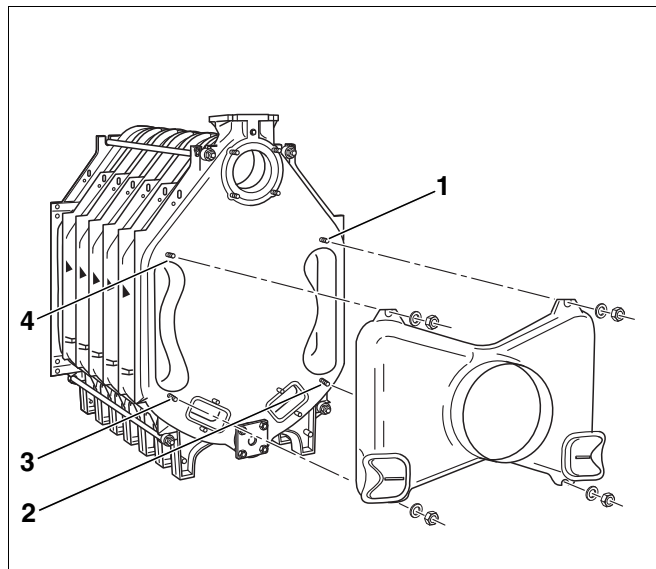

Fig. 29 Installing the flue gas header
- Place the flue gas header onto the four threaded studs on the rear section (Fig. 29, [1] to [4]) and secure using washers and nuts.